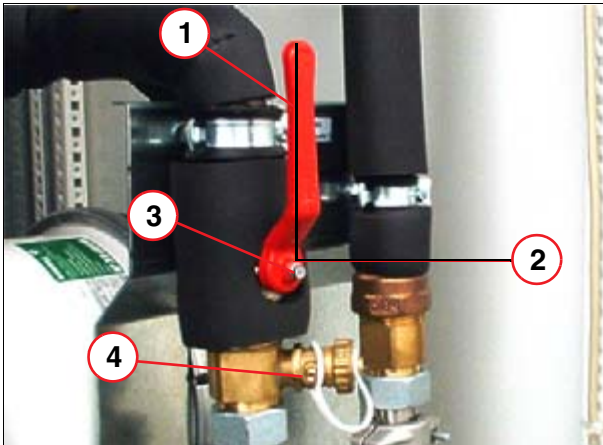

Fig. 15: Shut-off valve at the WCS "Gantry water inlet"
2. Connect the water hoses to the filling and draining valves (4/Fig. 15 / p. 18).
- ⇒ The lever is lined up with the connection pipe (1/Fig. 15 / p. 18).
6. Open the filling and draining valves (4/Fig. 15 / p. 18) by turning them 90° counterclockwise using the valve cap.
7. Drain until the water pressure reaches  $2.0 \pm 0.2$  bar, and close the filling and draining valves (4/Fig. 15 / p. 18) by turning them 90° clockwise using the valve cap.